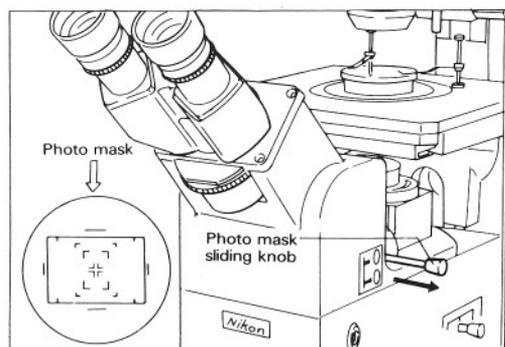

Fig. 36
- To put the photo mask into the optical path pull the photo mask knob up to the limit. (Fig. 36) It is used in photography, when focusing is to be done with the binocular eyepiece tube of microscope (Refer to P.24), or when diopter adjustment of the eyepiece is to be made.